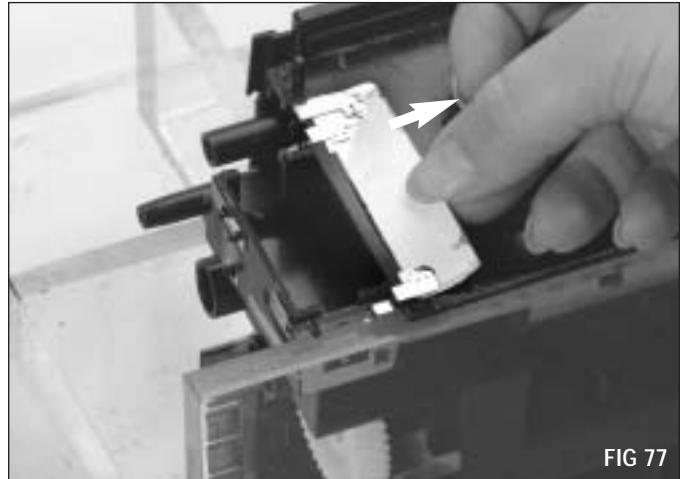

FIG 77
7. To remove the white tape around the electrical contacts, first lift up and then slide the tape out (FIG 77). **Be careful not to damage the contacts.**